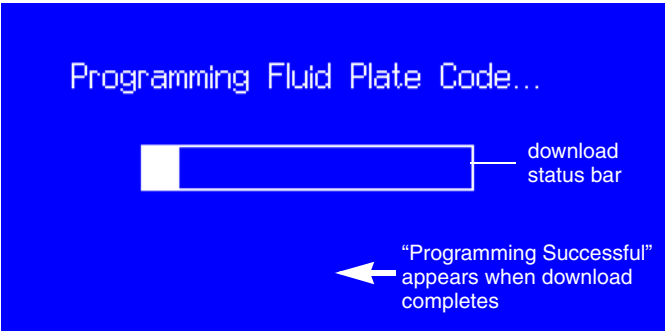

FIG. 25
5. After the EasyKey™ Display software is updated, the Smart Fluid Panel software automatically begins updating. The status screen in FIG. 25 will appear on the EasyKey™ Display. Wait until automatic update is complete.